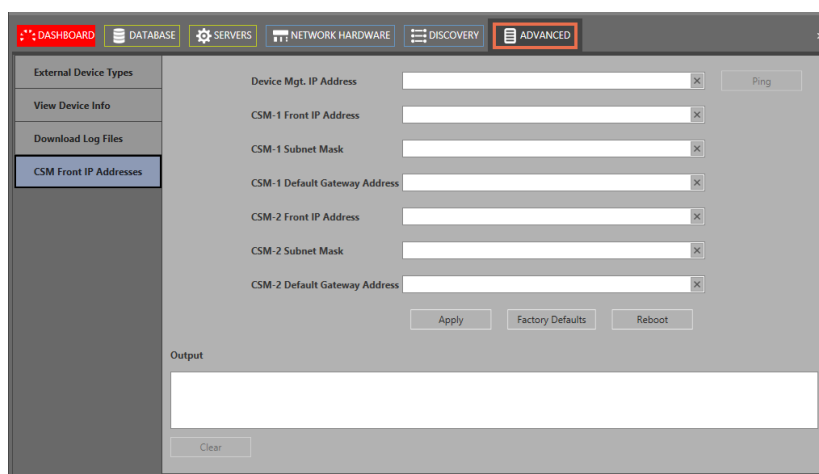

Figure 23 Advanced Tab: CSM Front IP Addresses
1. In Figure 23 in the 'Device Mgt. IP Address field', just fill out the Mgt. IP address (*) of the node with the CSM that must be have another IP configuration. Click 'Ping' to check whether the HiProvision PC can reach the node;
2. In Figure 23, Fill out the current IP address of the device (or CSM that was already configured) in the 'Device Mgt. IP Address' field and Click 'Ping' to check whether the HiProvision PC can reach the device;
2. In Figure 23, Fill out the current IP address of the device that must be reset to factory defaults and click 'Ping' to check whether the HiProvision PC can reach the node;